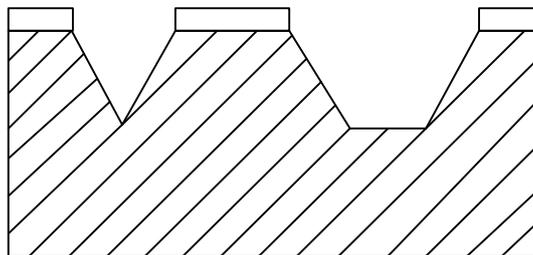

Figure 1-1 V slot of (100) plane and (111) plane
In Si wet etching, the etching speed appears to be different with different crystal planes. Specifically speaking, (111) plane density is larger than the (100) plane, so the etching speed of (111) plane will be lower than that of (100) plane. In application, if the Si on (100) plane is covered by  $\text{SiO}_2$  with certain pattern, the directional etchant will generate an accurate V slot with border being (111) plane and angle being 54.7 degree with (100) plane, as showed in Figure 1-1.